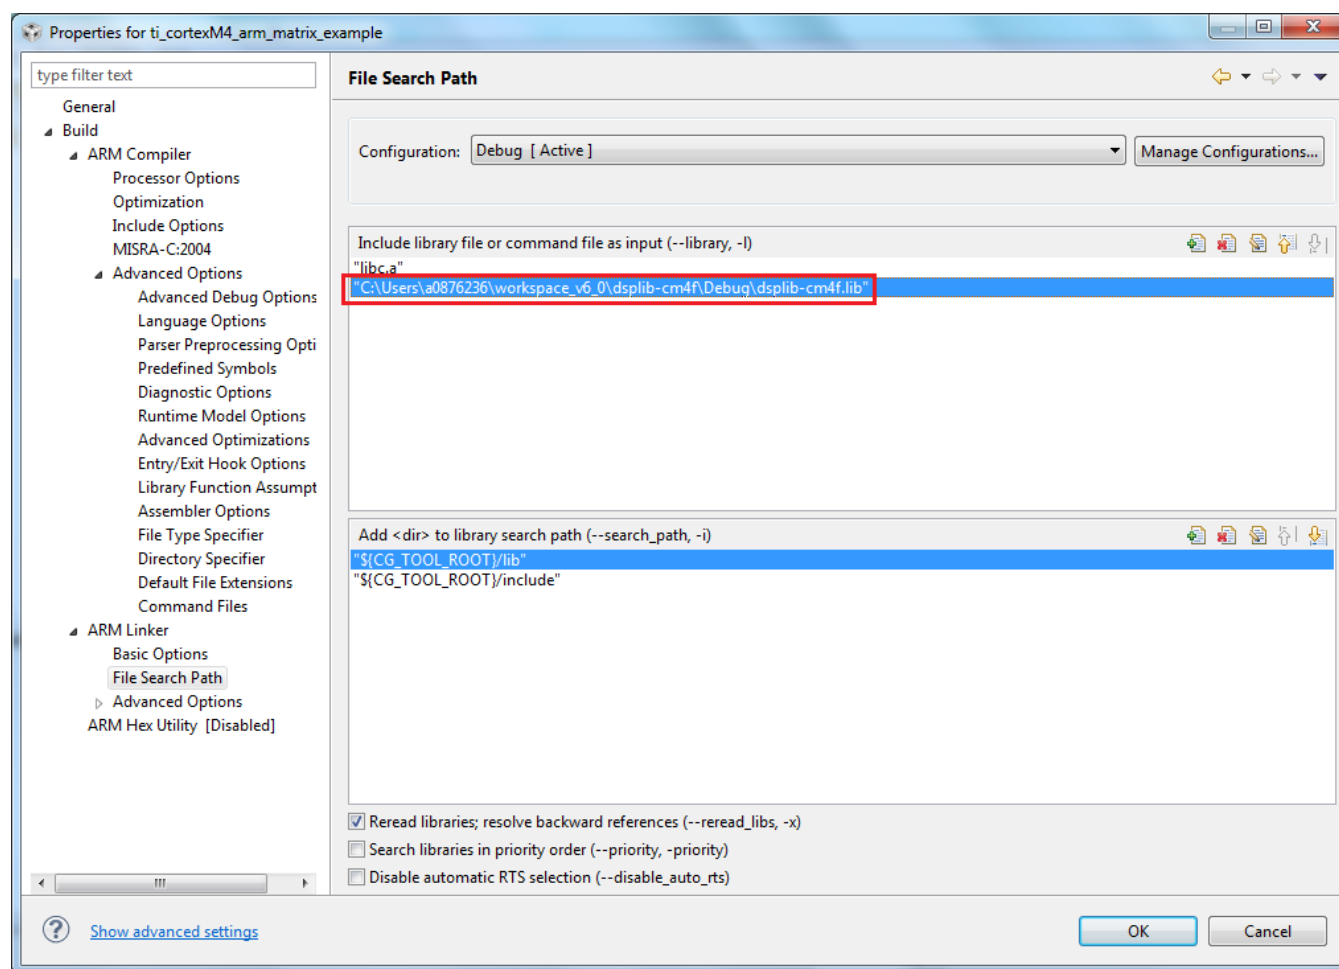

Figure 24. The Linker's File Search Path Modified to Include the dsplib Binary Compiled in Section 3
12. Create an entry for the precompiled CMSIS DSP binary (.lib) that will be used in the *Include library file or command file as input (--library, -l)* area (see Figure 24). For this example, the library file created in section three will be used, so click on the *Add...* button, then the *File system...* button and navigate to the location of the .lib you want to use. If you built the precompiled binary from scratch as detailed in section 3 without changing the default project location, the .lib will be found at C:\Users\<user_name>\CCS workspaces\<your workspace>\dsplib-cm4f\Debug\dsplib-cm4f.lib. When you have found the binary, click **Open**, then **OK**.